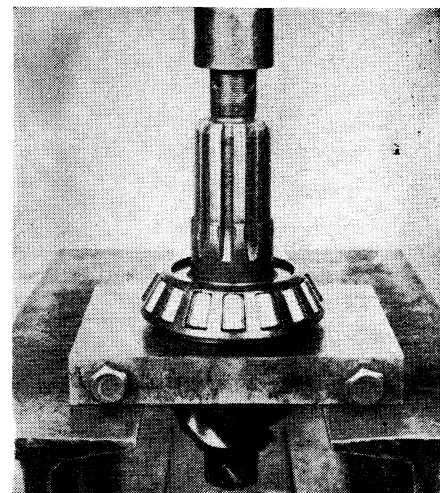

Fig. 80 Removing pinion bearing
- pinion shaft. If necessary to replace rear thrust bearing or radial bearing, remove with suitable puller, Fig. 80. Remove oil seal from bearing cover.